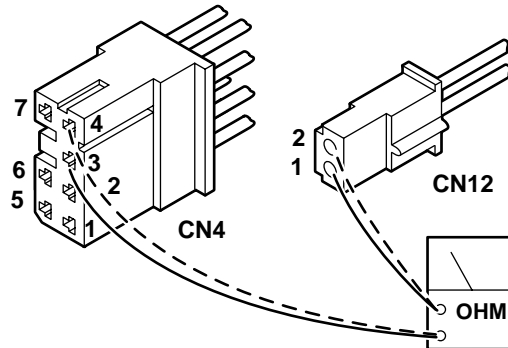

**Figure 6-21.**
2. Using an ohmmeter, test for continuity between pin 1 of CN4 and battery (+) connector. Also test between pin 2 of CN4 and battery (-) connector. See figure 6-21.